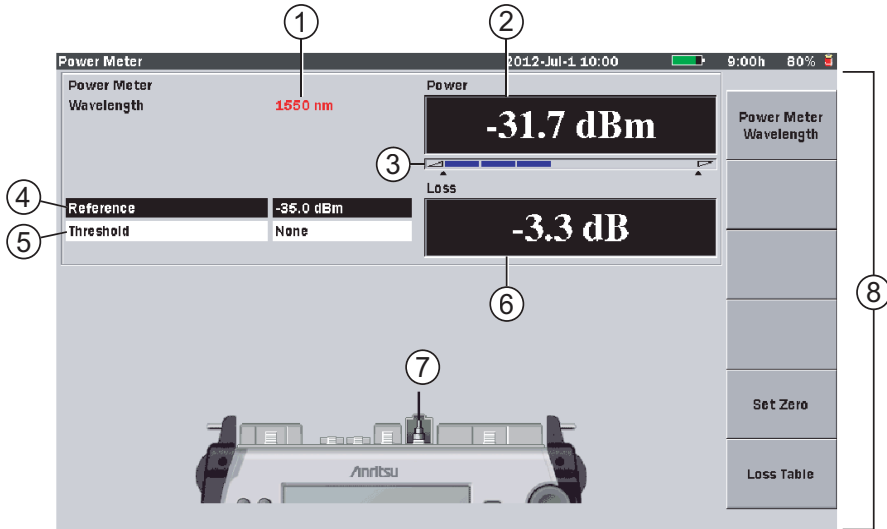

Figure 9-2: Power Meter Screen Elements
In addition, when the reference value (as set in the Reference Field, item 4 in Figure 9-2 on page 9-2) is set to “None”, the background color of the Absolute Power reading changes according to the Pass/Fail status established by the value in the Threshold field (see item 5 in Figure 9-2 on page 9-2). Readings that “pass” have a black background, while readings that “fail” have a red background.
The Range Indicator (see item 3 in Figure 9-2 on page 9-2) provides a graphic representation of the optical power level being measured. The greater the optical power level measured, the further the Range Indicator is filled in.
Displays the currently set reference value which is used to calculate the Loss reading (item 4 in Figure 9-2 on page 9-2). Reference values can be entered for each of the power meter’s calibrated wavelengths.
Displays the currently set threshold value which is used to determine the Pass/Fail status of the Loss reading, as displayed in the Loss Table (see item 5 in Figure 9-2 on page 9-2). Threshold values can be entered for each of the power meter’s calibrated wavelengths.
The Loss reading (item 6 in Figure 9-2 on page 9-2) displays the optical power loss value.
In addition, when a reference value other than “None”, is set in the Reference Field (item 4 in Figure 9-2 on page 9-2), the background color of the Loss reading changes according to the Pass/Fail status established by the value in the Threshold field (see item 5 in Figure 9-2 on page 9-2). Readings that “pass” have a black background, while readings that “fail” have a red background.
The measurement port varies according to the optical wavelength of the light to be injected. Item 7 in Figure 9-2 on page 9-2, the Port Connection indicator, displays the port to be used when testing.
Press **Loss Table (f6)** on the Power Meter screen (see Figure 9-2 on page 9-2) to display the Loss Table screen.
The Power Meter Settings area displays the Wavelength selection and Reference value established on the Power Meter screen (see Figure 9-2 on page 9-2), as well as the current Loss reading.
The current wavelength is indicated by the Power Meter Wavelength indicator. See item 1 in Figure 9-2 on page 9-2 for the location of the indicator.